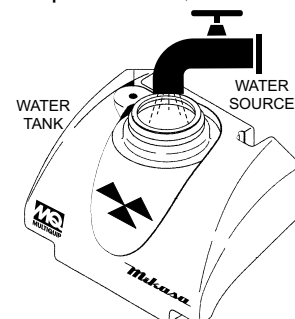

**Figure 5. Fuel Check**
1. Visually inspect (Figure 5) to see if fuel level is low. If fuel is low, replenish with unleaded fuel.